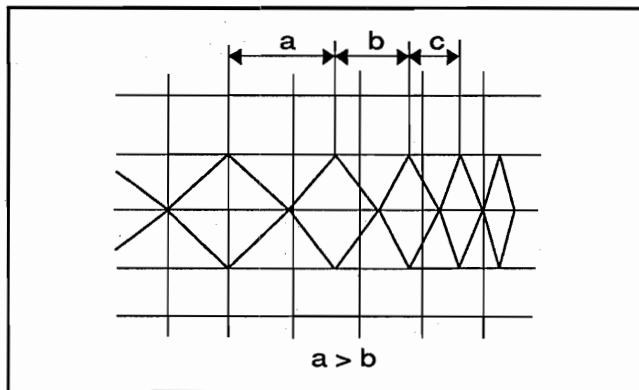

Fig. 1-13
- 2) If the pitch is less at the right side (Fig. 1-13), adjust Guide 9 according to the procedure in "Tape Take-Up Alignment." After the adjustment, be sure that the tape is not creased at the flange of either Guide 8 or Guide 9. If the tape is creased, turn Guide 10 to smooth the tape. For this adjustment, refer to Step 6 of "Checking After Adjustment."